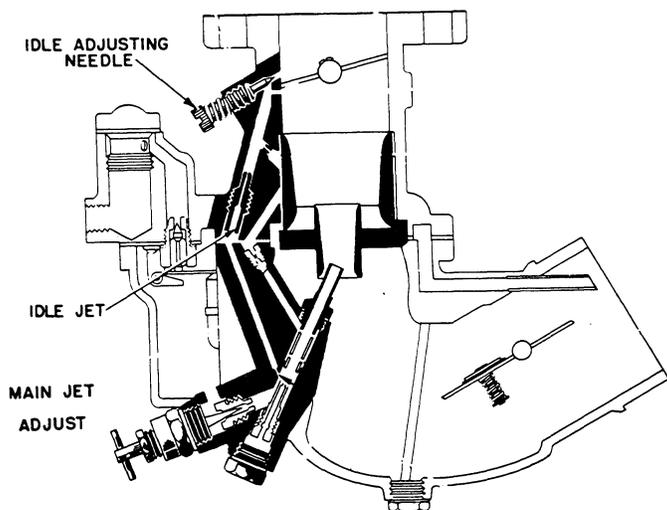

Fig.65 Carburetor - 63M and 263M Series
(1) Before any of the above adjustments to the carburetor are made, the engine should be operated for a sufficient length of time to reach operating temperature.
(2) With throttle in idling position, adjust the throttle stop screw for desired idling speed. See Fig. 65 and 66.
(3) Turn the idle needle valve in and out until the speed of the engine is steady and as fast as this throttle position will permit.
(4) Readjust the throttle stop screw for desired engine idling speed.
(5) Open the throttle approximately one-third.
(6) Loosen the packing nut on the main jet adjustment.
(7) Turn the main jet adjustment screw in until the engine speed is noticeably reduced.
(8) Turn the main jet adjustment screw out until the engine runs smoothly and as fast as this throttle position will permit.
(9) Hold the adjusting screw in place and tighten the packing nut.
(10) Return the throttle to idle position and readjust idle needle valve slightly for best idling performance.